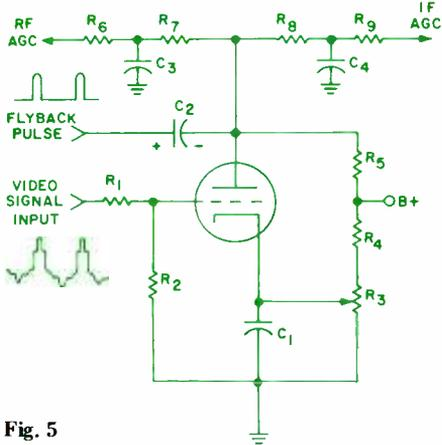
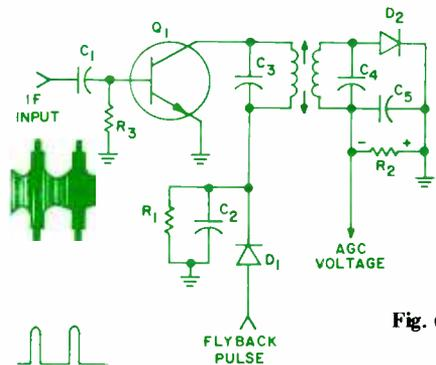

Fig. 5
Fig. 6
Fig. 5 shows a typical keyed agc system. The agc control voltage is de-
Fig. 6 shows another simple keyed agc system. As you can see, this circuit is from a transistorized TV receiver. A transistor agc circuit could be designed to operate exactly the same as the vacuum tube circuit of Fig. 5, but this particular circuit is a bit different. The transistor in the diagram is actually an i-f amplifier, and its input is obtained from the last regular i-f amplifier in the receiver. The i-f amplifier shown here is used only for agc; its output is not used to supply the video signal. Notice that no dc voltages are applied to the transistor amplifier stage. Instead, a positive pulse from the flyback transformer is used to supply collector voltage. The values of  $R_1$  and  $C_2$  are chosen so that  $C_1$  discharges very rapidly. This means that the amplifier will work only while the flyback pulse is present. Since the sync pulse is the only part of the modulation signal that coincides with the flyback pulse, only this part of the i-f signal will be amplified. The output is applied to a detector circuit to convert the signal into a dc voltage. This voltage will be in proportion to the sync pulse amplitude, and therefore to signal strength.
4. Capacitor  $C_2$  in Fig. 6 is usually a large-value electrolytic.
5. If capacitor  $C_2$  in Fig. 5 becomes open, the agc voltage will become positive.